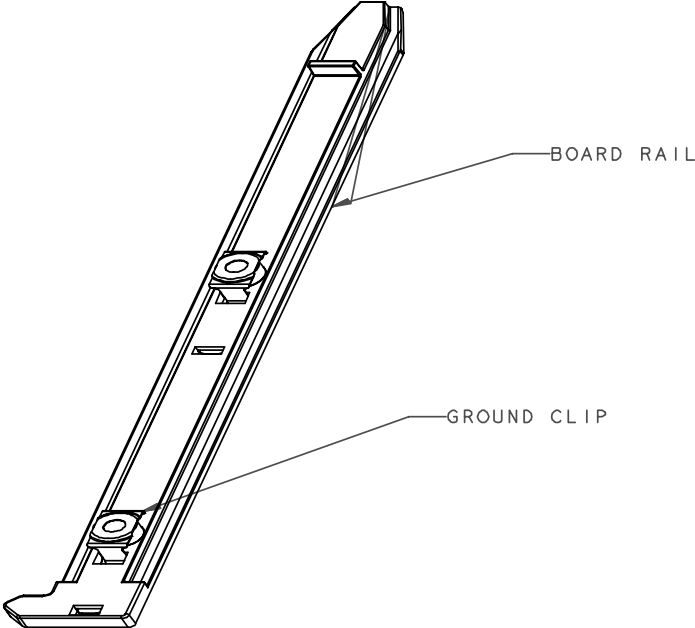

Figure 3: Rail and Clip Assembly
- Figure 3: Rail and Clip Assembly 8
Figure 3 shows an example of two ground clips snapped into the motherboard rail.